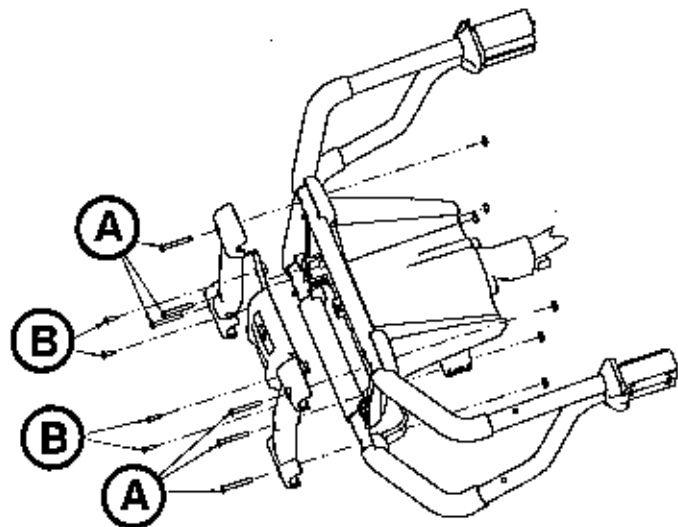

Figure 62
3. Using a T25 Torx driver, remove the six outer button head cap screws (A) from the face plate (Figure 62). Save all screws for reinstallation.